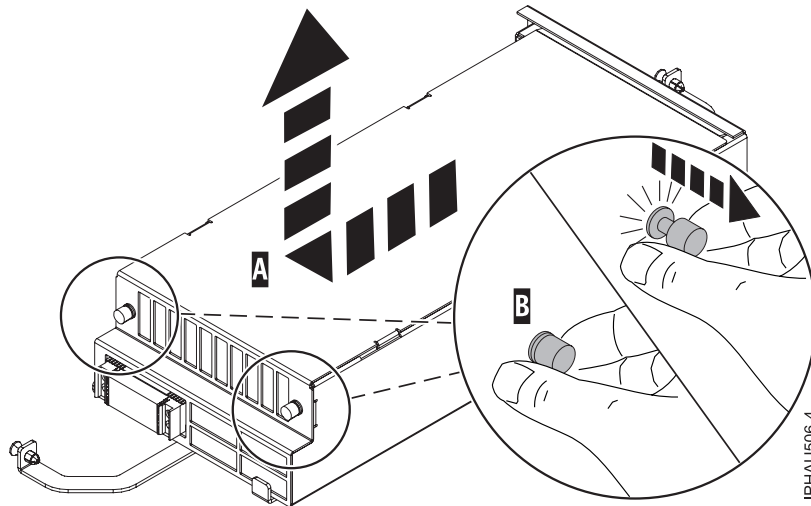

Figure 1. Removing the system processor assembly cover
10. Remove the system processor assembly cover (A) by unlocking the two retention knobs (B) and pulling back and lifting up the cover, as shown in Figure 1.